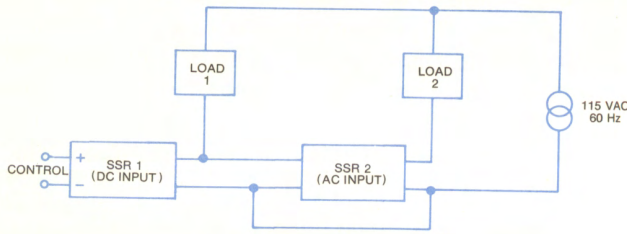

Fig. 2-18 SPDT switching using two AC SSRs.
2.6.4 SPDT Switching (Fig. 2-18)